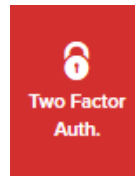

Figure 2. Partner Portal (Two Factor Auth. icon)
4. Click the **Two Factor Auth.** link on the left-hand side of the web page (Figure 2 \(page 12\)).